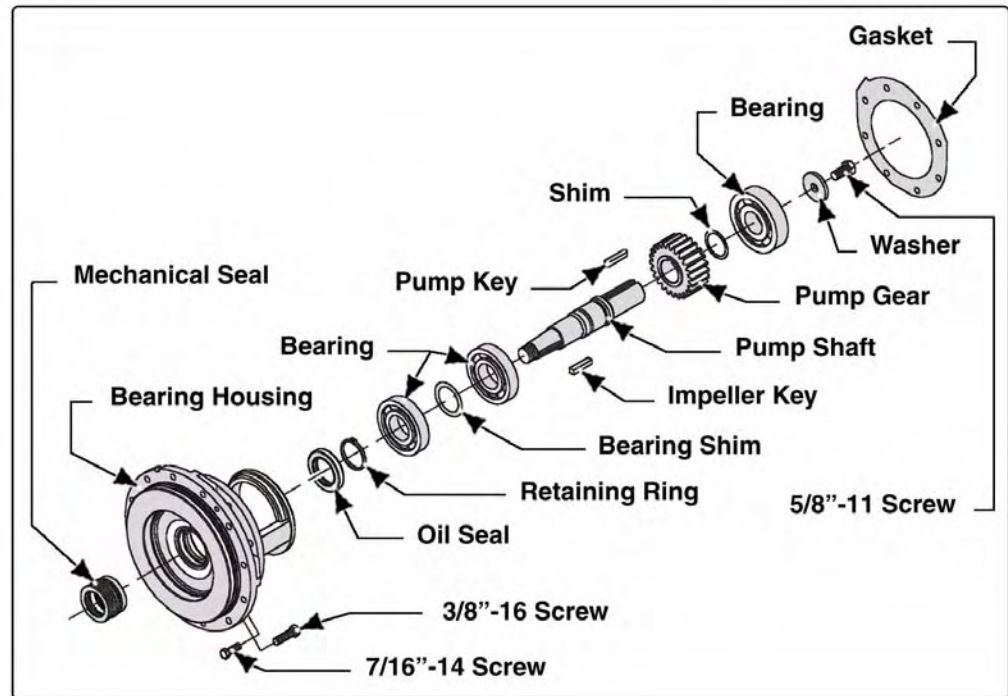

Figure 6-8: Bearing Housing - Oil Seal Replacement
1. To service the pump shaft assembly and oil seal you must dismantle the bearing housing assembly. (See Figure 6-8: “Bearing Housing - Oil Seal Replacement” on page 87.)